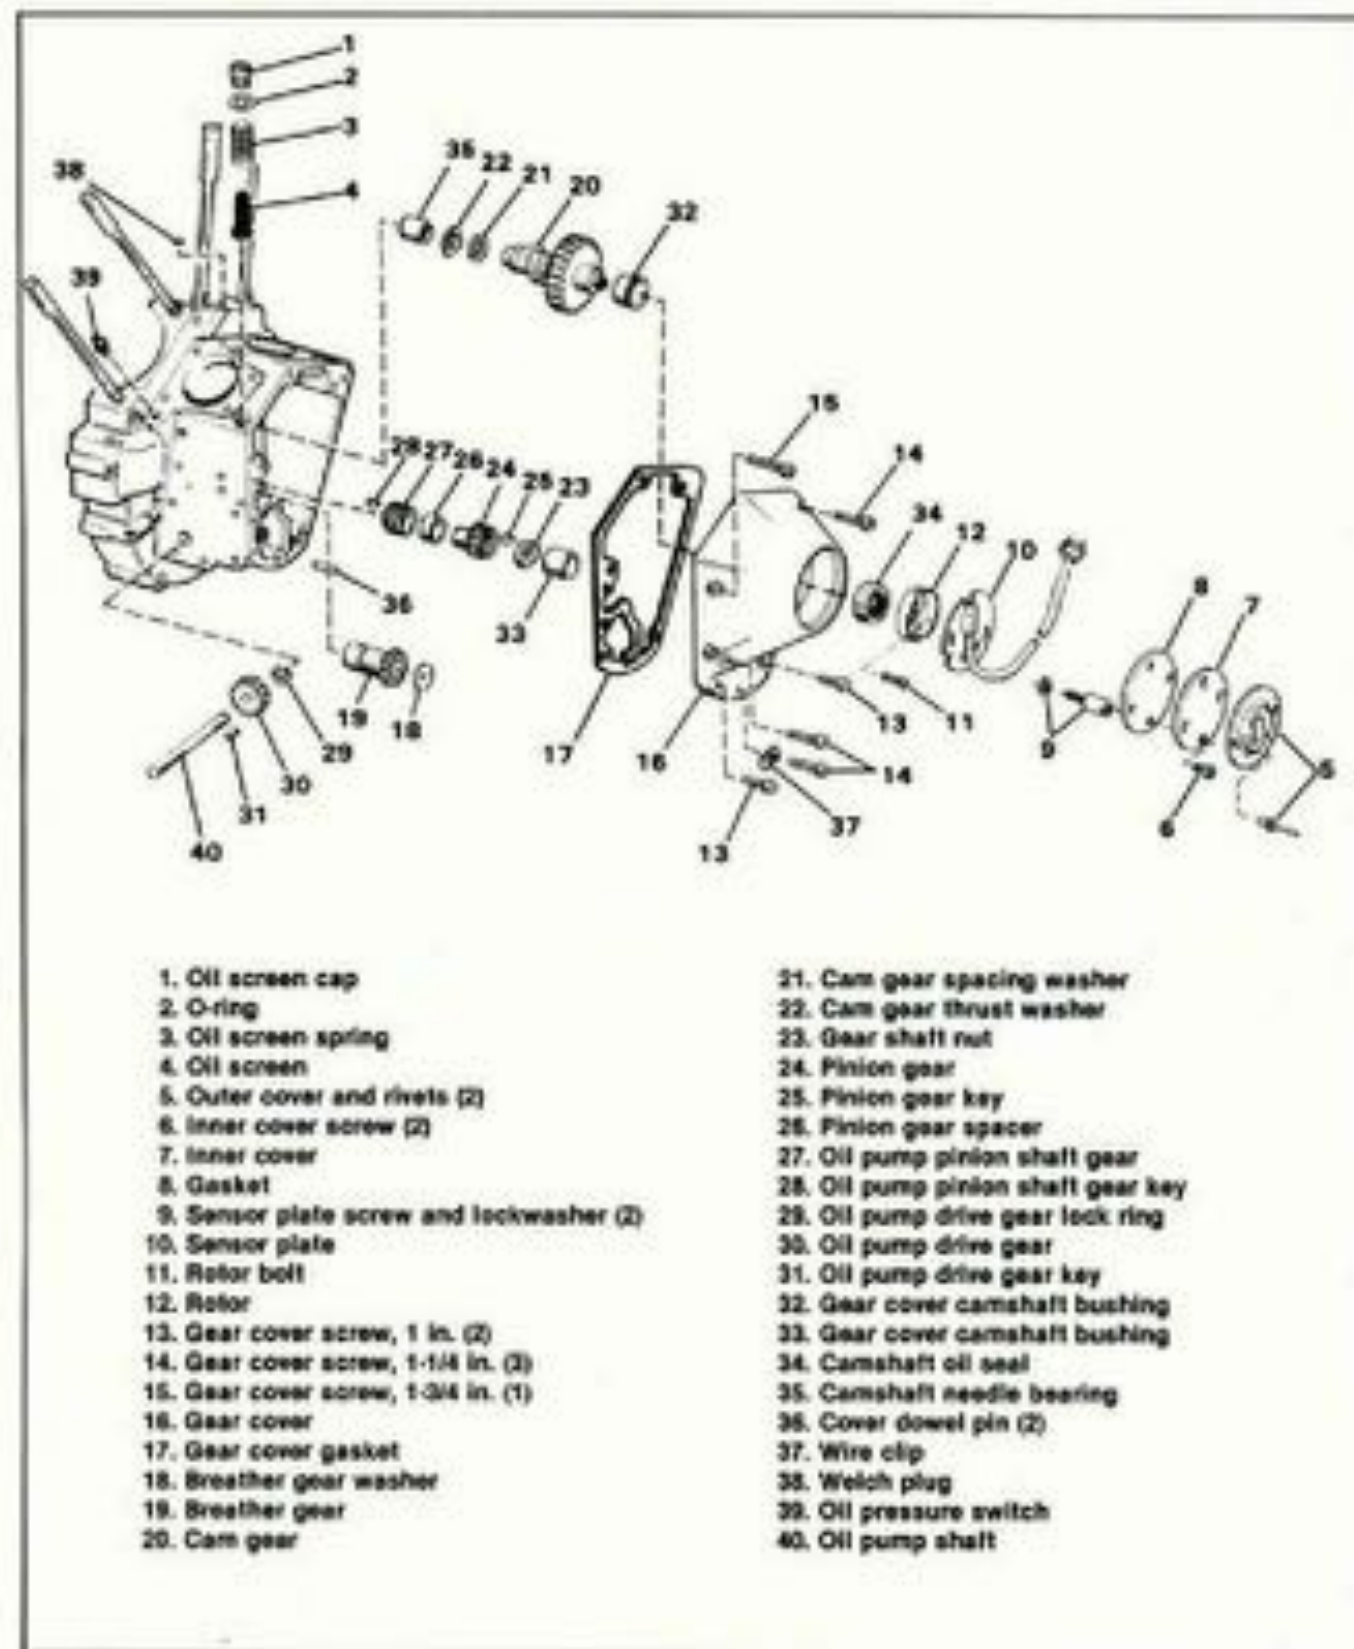

Figure 3-28. Gearcase — Exploded View
### Disassembling Gearcase (Figure 3-28)
### Cleaning, Inspection and Repair (Figure 3-28)
### Replacing Gearcase Cover Bushings (Figure 3-28)
3. See Figure 3-28. Make sure that chamfer on oil pump pinion shaft gear (27) faces toward the inside. Tighten pinion gear shaft nut (23) to 35-45 ft-lbs torque. Make sure that gear shaft pinion spacer